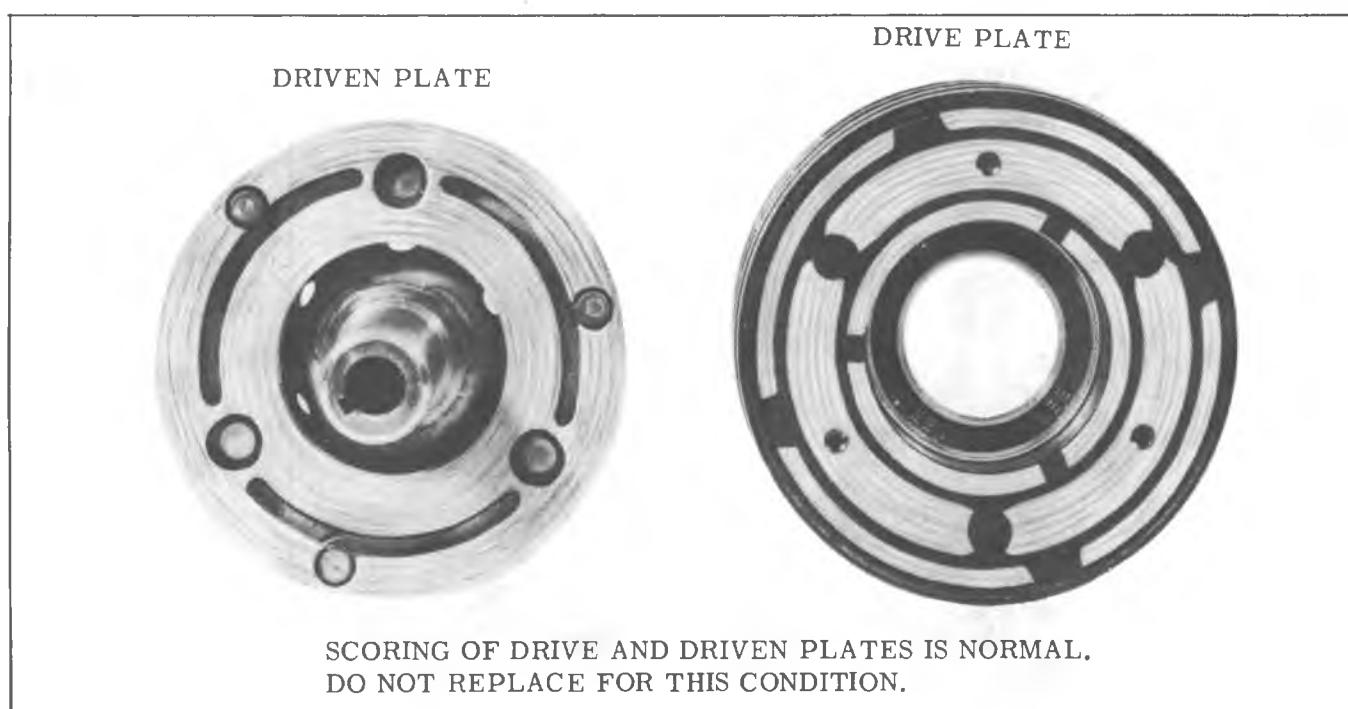

Fig. 6--Clutch Driven Plate and Drive Plate
6. Inspect driven plate for cracks or stresses in the drive surface. Do not replace driven plate for a scoring condition (Fig. 6).
Check the appearance of the pulley and bearing assembly. See Fig. 6. The frictional surfaces of the pulley and bearing assembly should be cleaned with a suitable solvent before reinstallation.